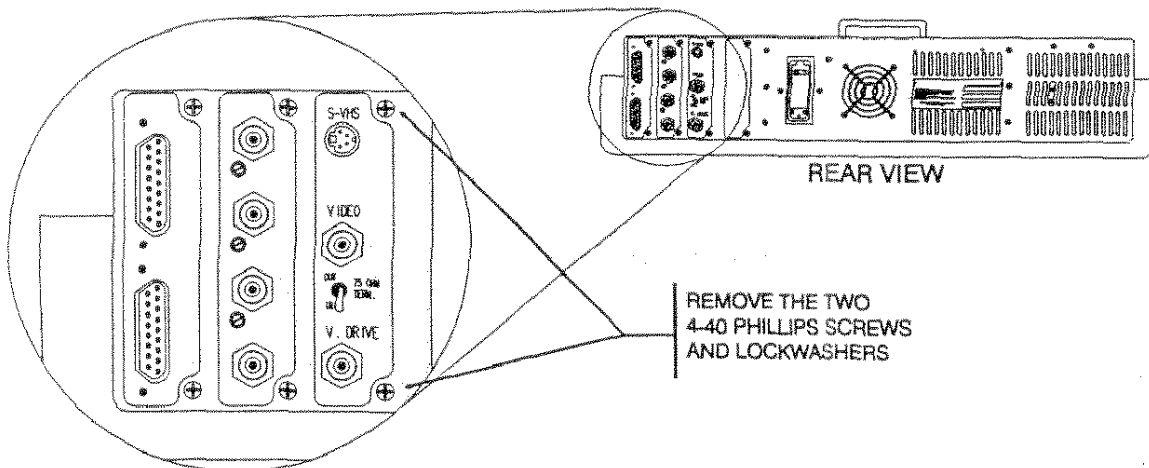

FIGURE 3-3. QUAD VIDEO DECODER MODULE REMOVAL
- STEP 3. Remove the two 4-40 phillips screws and lock washers securing the QVD¹ module to the rear panel. Third module from the left as viewed from the rear. See Figure 3-3.